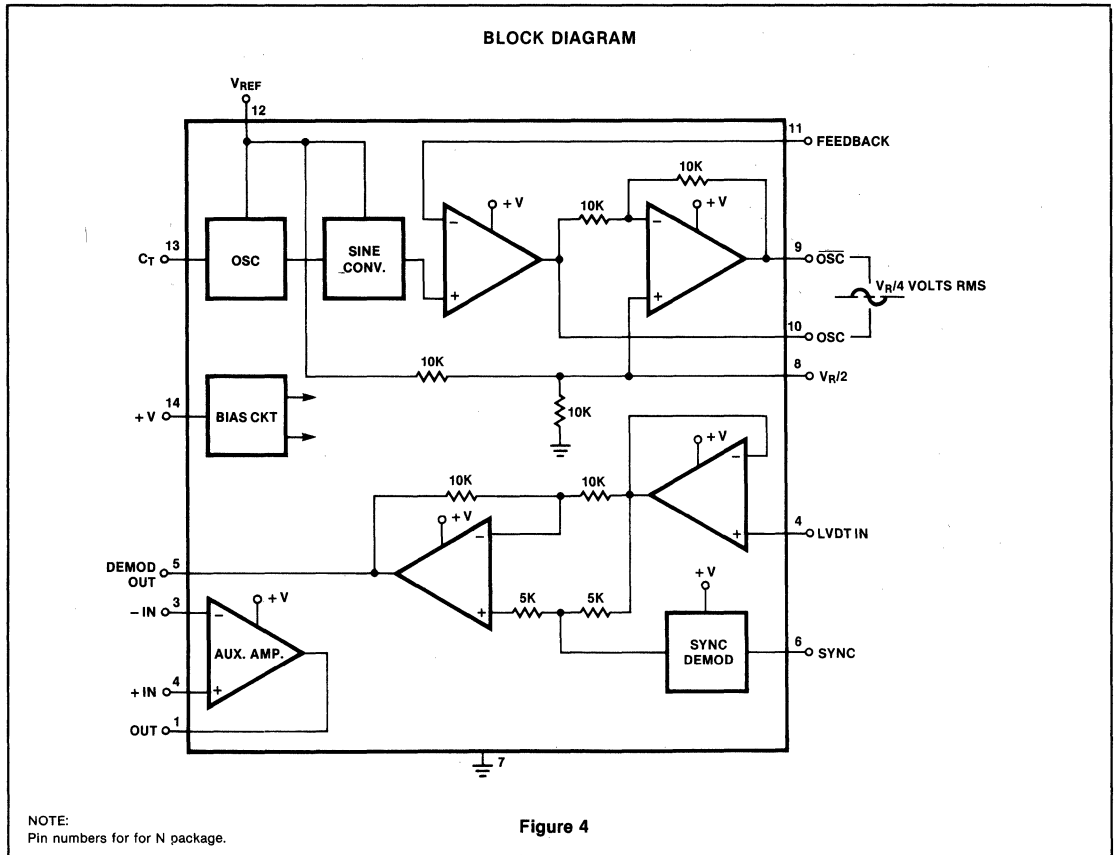

Figure 4
exists in the Signetics NE5520. Once phase and amplitude information is obtained in the form of a polar full wave rectified signal (see Figure 3C) from the synchronous demodulator, the carrier component (actually 2nd harmonic of the carrier plus higher order spectral components) must be filtered out leaving only the true position information. This is accomplished by passing the demodulated signal through a low-pass active filter. An auxiliary operational amplifier is provided for this purpose within the NE5520, in addition to adjustable signal gain for proper full scale output (span adjustment). In addition, DC offsets are nulled by a simple offset adjustment at the auxiliary amplifier. The resulting system is a complete LVDT signal conditioner. Figure 4 shows a block diagram of the NE5520. The device
**DESCRIPTION OF THE NE5520 (Figure 4)**